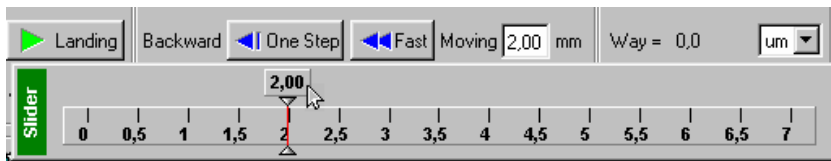

Fig. 4-45
- Using a slider, set a value equal to 2-3 mm (Fig. 4-45)